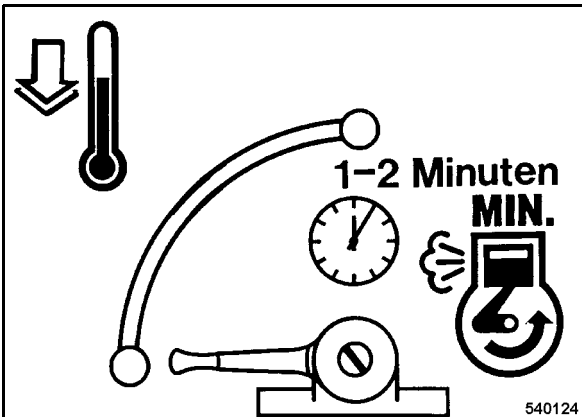

Fig. 25
- Set the throttle lever (Fig. 25) to position "MIN" (idle speed).